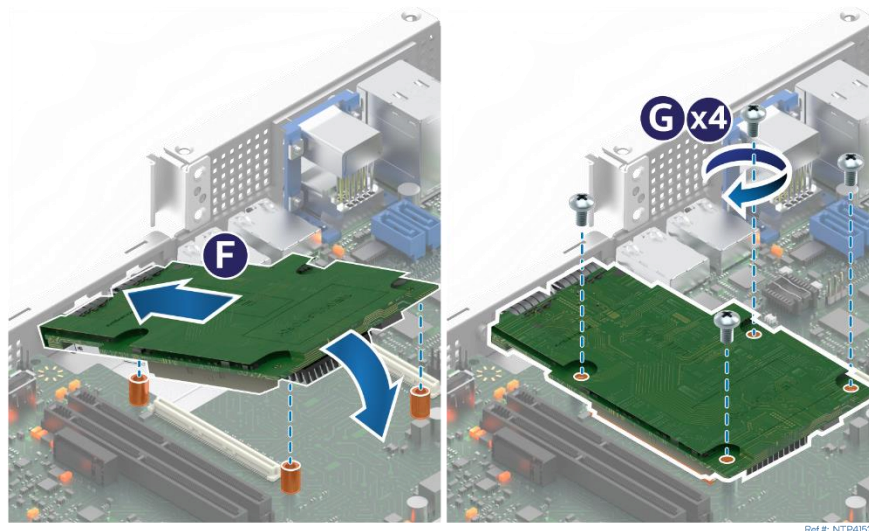

Figure 44. OCP* Module Installation
8. Mount the OCP* module to the server board (see Figure 44)